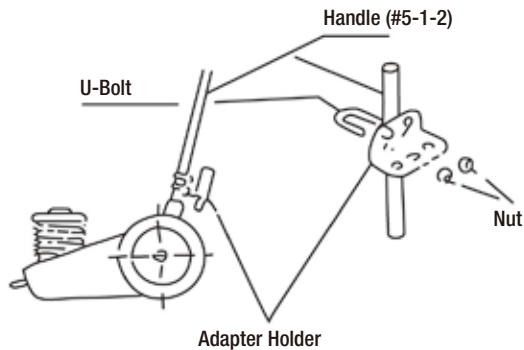

Figure 2
2. Adapter holder needs to be assembled with the handle (#5-1-2) as shown in Figure 2. Use 2 bolts, 2 nuts and 2 spring washers to complete this assembly.